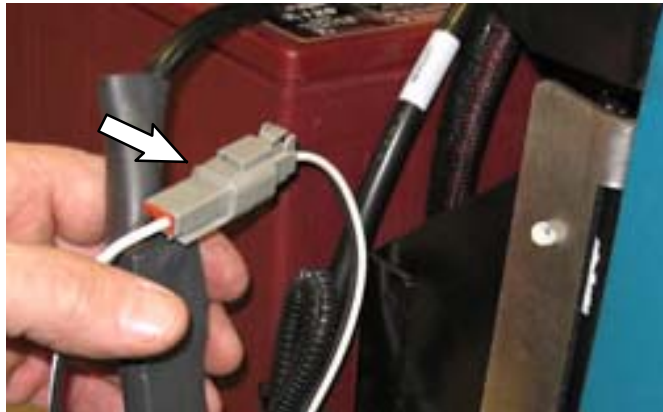

FIG. 25
27. Connect the routed telemetry harness connector to the shunt harness connector (FIG. 25).
28. Use two cable-ties (11) to attach the shunt assembly to the shunt bracket (FIG. 25). Secure telemetry wires with cable-ties as shown.